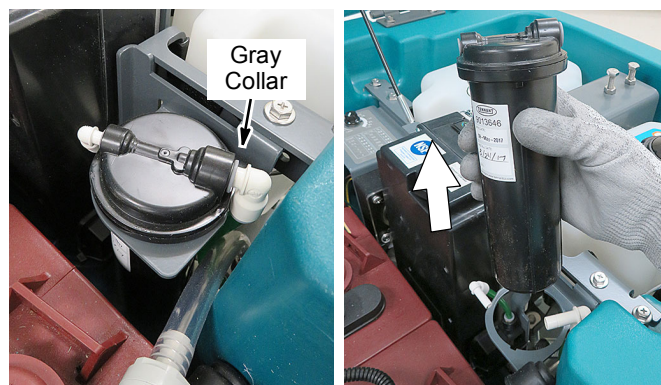

FIG. 151
- Disconnect the two hose connectors from the top of the cartridge by pressing the gray collars inward and pulling the connectors outward (Figure 151). Lift cartridge to remove.